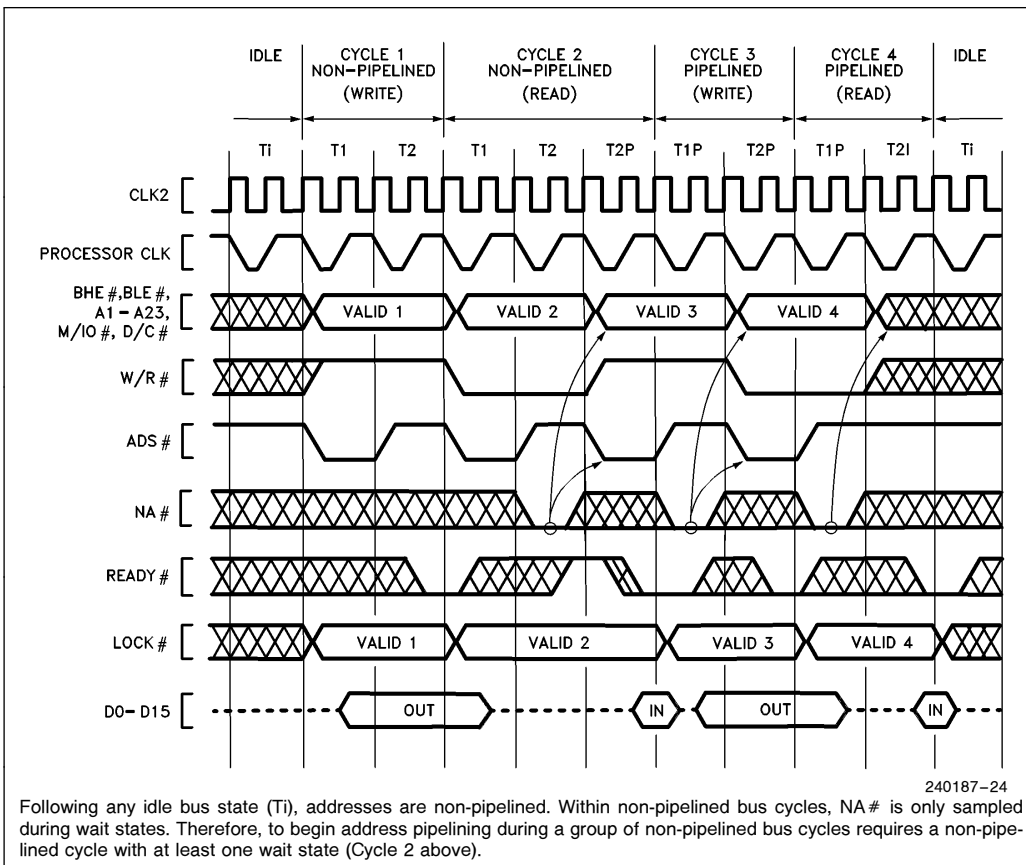
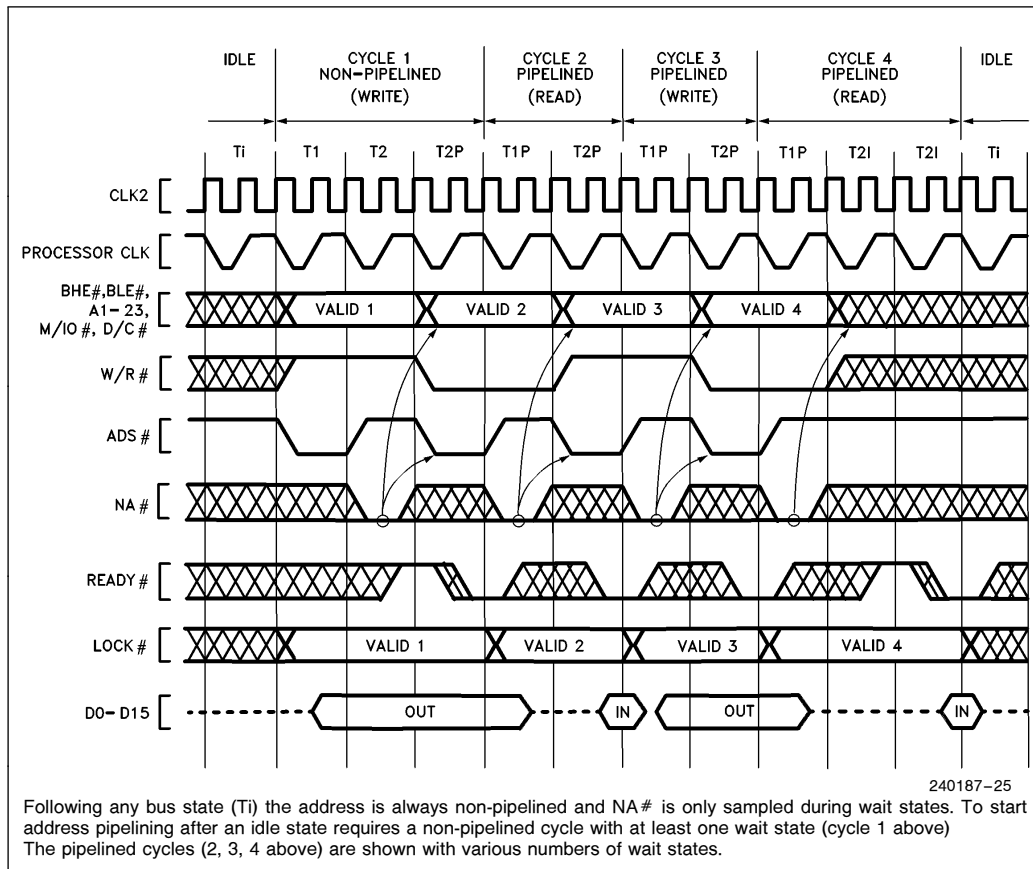

Figure 5.9. Transitioning to Pipelined Address During Burst of Bus Cycles
Figure 5.10. Fastest Transition to Pipelined Address Following Idle Bus State
Once a bus cycle is in progress and the current address has been valid for at least one entire bus state, the NA# input is sampled at the end of every phase one until the bus cycle is acknowledged. During non-pipelined bus cycles NA# is sampled at the end of phase one in every T2. An example is Cycle 2 in Figure 5.9, during which NA# is sampled at the end of phase one of every T2 (it was asserted once during the first T2 and has no further effect during that bus cycle).
1. The next address may appear as early as the bus state after NA# was sampled active (see Figures 5.9 or 5.10). In that case, state T2P is entered immediately. However, when there is not an internal bus request already pending, the next address will not be available immediately after NA# is asserted and T2I is entered instead of T2P (see Fig-
2. Any address which is validated by a pulse on the ADS# output will remain stable on the address pins for at least two processor clock periods. The Intel386 SX Microprocessor cannot produce a new address more frequently than every two processor clock periods (see Figures 5.9, 5.10, and 5.11).
The transition to pipelined address is shown functionally by Figure 5.10 Cycle 1. Note that Cycle 1 is used to transition into pipelined address timing for the subsequent Cycles 2, 3 and 4, which are pipelined. The $NA\#$ input is asserted at the appropriate time to select address pipelining for Cycles 2, 3 and 4.
Once a bus cycle is in progress and the current address has been valid for one entire bus state, the $NA\#$ input is sampled at the end of every phase one until the bus cycle is acknowledged. Sampling begins in T2 during Cycle 1 in Figure 5.10. Once $NA\#$ is sampled active during the current cycle, the Intel386 SX Microprocessor is free to drive a new address and bus cycle definition on the bus as early as the next bus state. In Figure 5.10 Cycle 1 for example, the next address is driven during state T2P. Thus Cycle 1 makes the transition to pipelined address timing, since it begins with T1 but ends with T2P. Because the address for Cycle 2 is available before Cycle 2 begins, Cycle 2 is called a pipelined
Examples of transition bus cycles are Figure 5.10 Cycle 1 and Figure 5.9 Cycle 2. Figure 5.10 shows transition during the very first cycle after an idle bus state, which is the fastest possible transition into address pipelining. Figure 5.9 Cycle 2 shows a transition cycle occurring during a burst of bus cycles. In any case, a transition cycle is the same whenever it occurs: it consists at least of T1, T2 ($NA\#$ is asserted at that time), and T2P (provided the Intel386 SX Microprocessor has an internal bus request already pending, which it almost always has). T2P states are repeated if wait states are added to the cycle.
Note that only three states (T1, T2 and T2P) are required in a bus cycle performing a **transition** from non-pipelined address into pipelined address timing, for example Figure 5.10 Cycle 1. Figure 5.10 Cycles 2, 3 and 4 show that address pipelining can be maintained with two-state bus cycles consisting only of T1P and T2P.
Once a pipelined bus cycle is in progress, pipelined timing is maintained for the next cycle by asserting $NA\#$ and detecting that the Intel386 SX Microprocessor enters T2P during the current bus cycle. The current bus cycle must end in state T2P for pipelining to be maintained in the next cycle. T2P is identified by the assertion of $ADS\#$. Figures 5.9 and 5.10 however, each show pipelining ending after Cycle 4 because Cycle 4 ends in T2I. This indicates the Intel386 SX Microprocessor didn't have an internal bus request prior to the acknowledgement of Cycle 4. If a cycle ends with a T2 or T2I, the next cycle will not be pipelined.